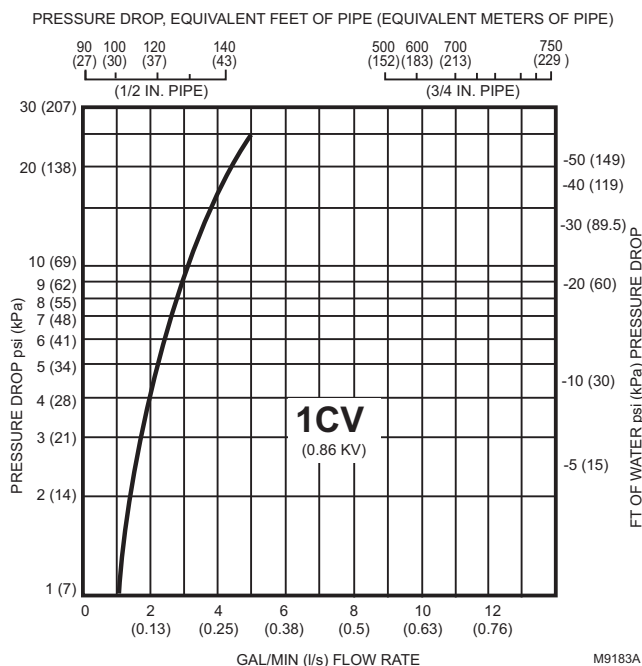

Fig. 3. Flow characteristics of 1 Cv (0.86 kv) flow.
The pressure drop in psi (kPa), equivalent ft (m) of pipe, or feet of water (kPa) may be calculated from Figs. 3 through 8 as follows:
3. Select the graph corresponding to the Cv (kV) rating (Fig. 3 through 8).